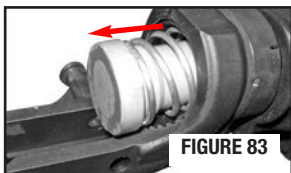

FIGURE 83
- Remove buffer and spring from the buffer tube (FIGURE 83).